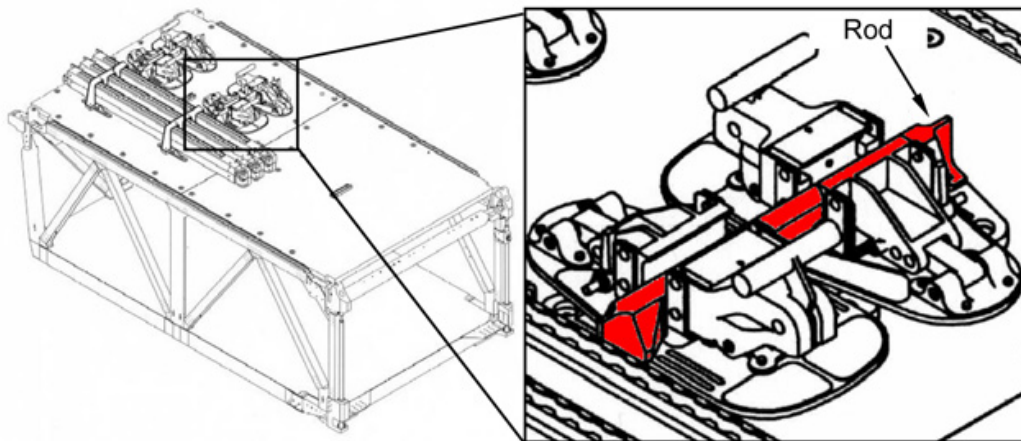

Figure 2. Portable Foot Loop – Launch position
5. For this section refer to Figures 2 and 3.